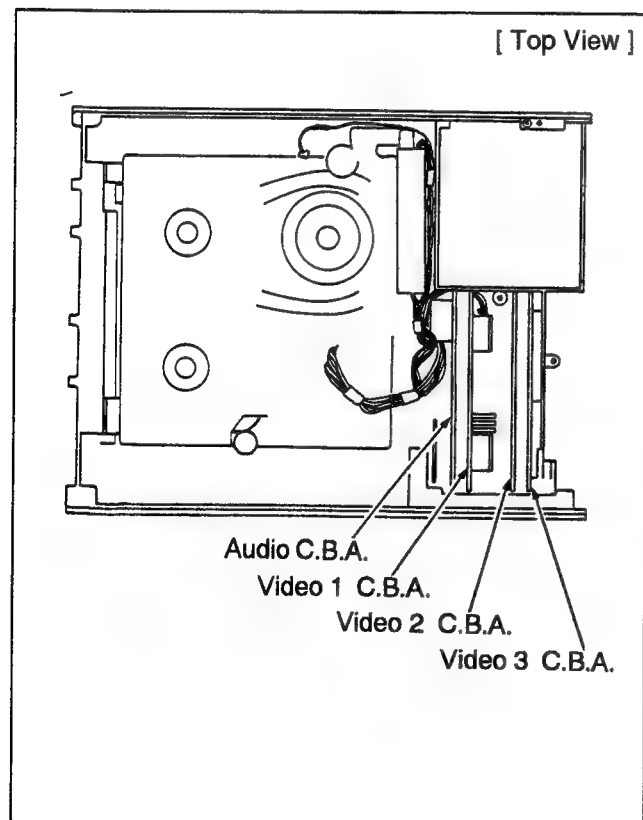

Figure D11
2. Carefully pull out the Audio C.B.A. (Figure D11.).
1. Carefully pull out the Video 2 C.B.A. (Figure D11.).
1. Carefully pull out the Video 3 C.B.A. (Figure D11.).